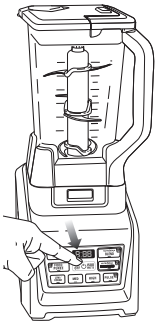

Fig. 7
- Press the power button to turn on the unit. Select the speed or Auto-iQ program that best suits your needs. The Auto-iQ program will stop the appliance automatically at the end of the program. (Fig. 7)